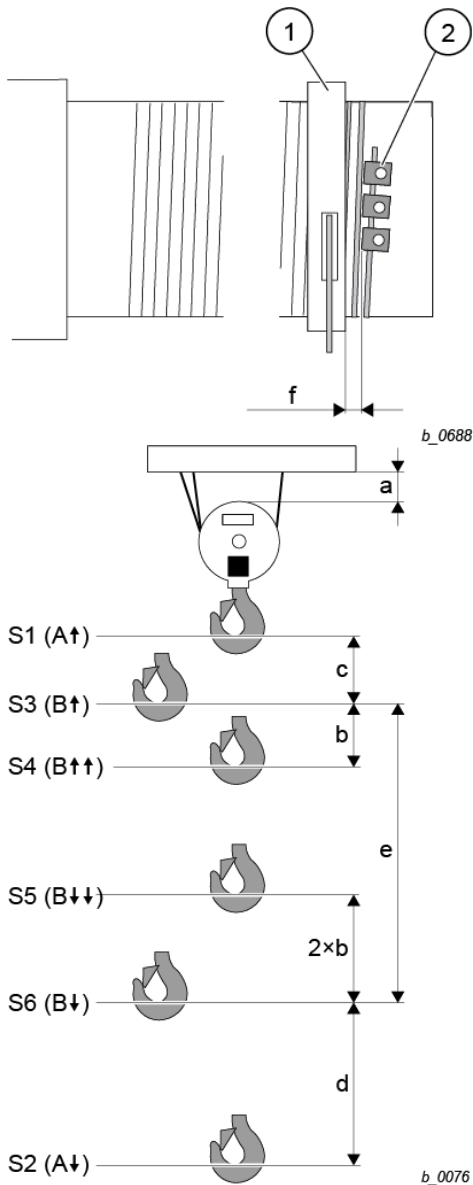

Fig. 38
1. Lower bottom hook block to 0.39 in above desired hook position, if necessary turn setscrew (S5) to the left beforehand. Observe minimum clearance, see Fig. 38.
- Type YK/SK: lift bottom hook block by $2 \times "b"$ (Fig. 38, Tab. 14).